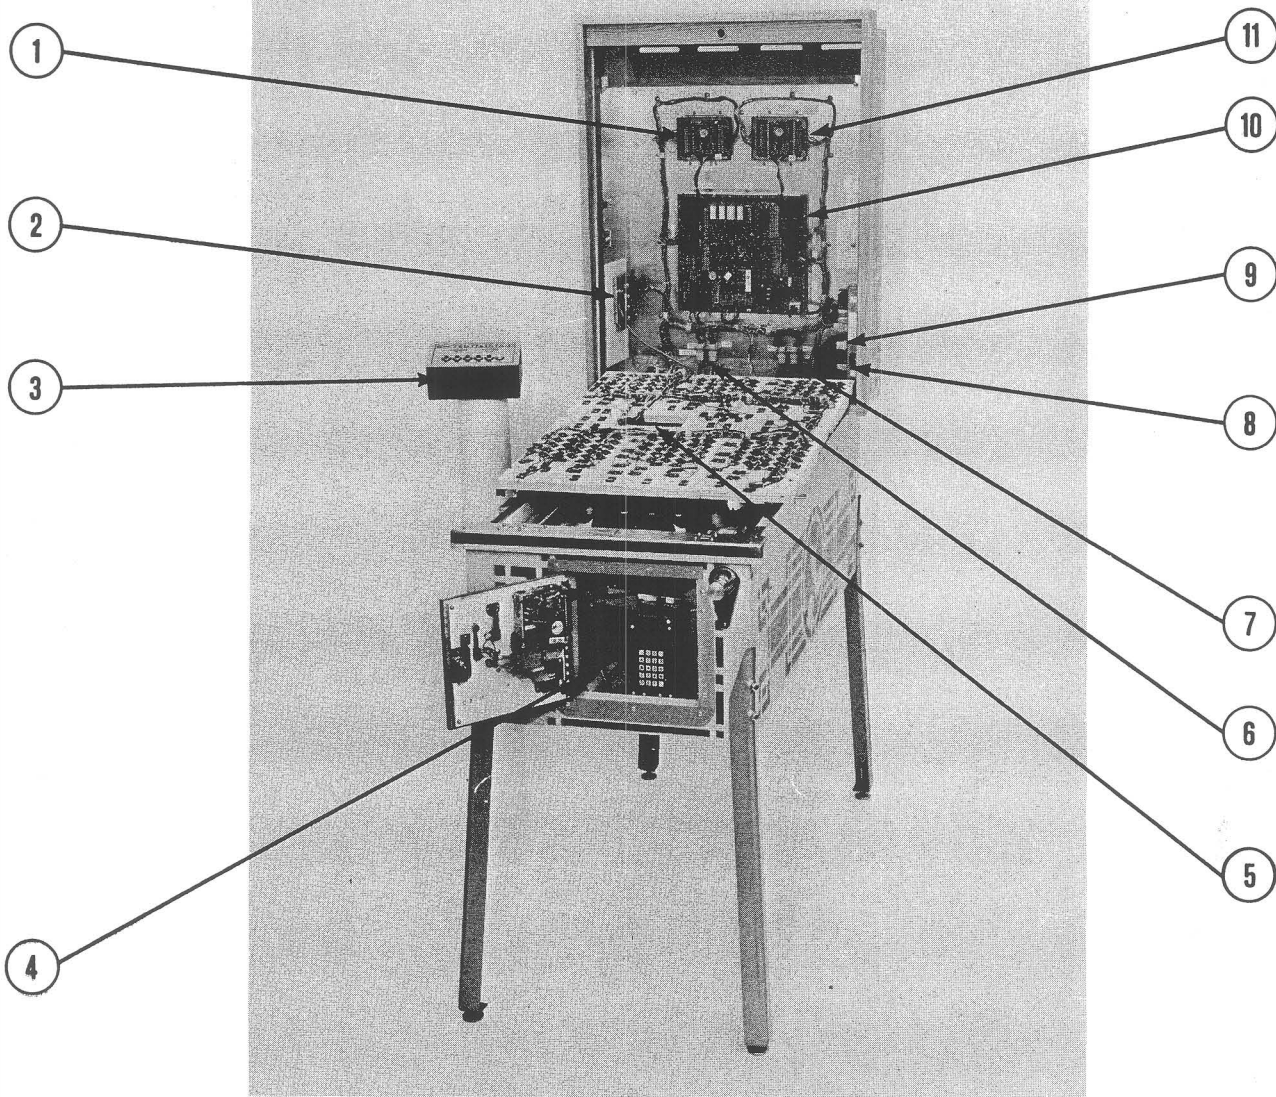
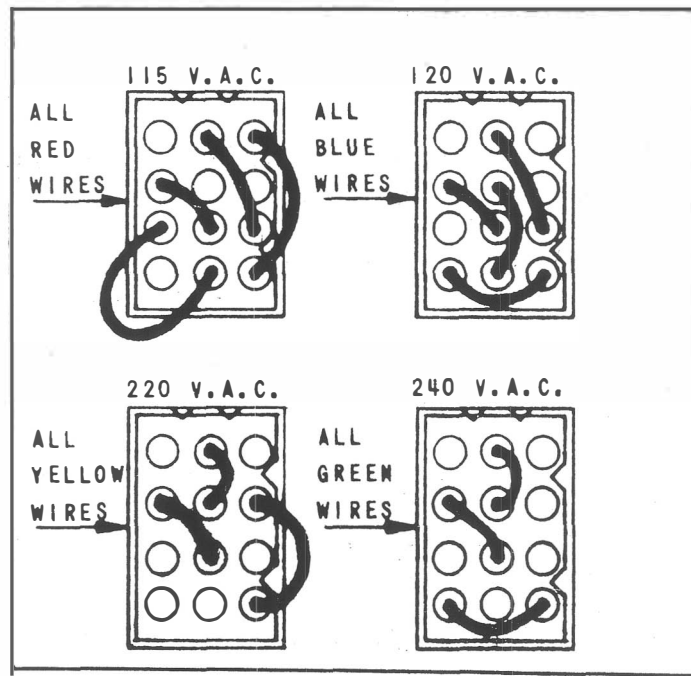

FIGURE 1 MODEL 1195E-1 BINGO GAME
FIGURE 2
A. Assembly (See Figure 1)
7. Carefully and fully insert (4) back box cable connectors into cabinet connectors.
Insert correct "line code" plug into receptacle on power supply chassis to match power input available, as shown in Figure 1. Games are normally supplied with two plugs, one wired for 120 VAC and the other for 220 VAC operation. Figure 2 shows wiring of "line code" plugs.